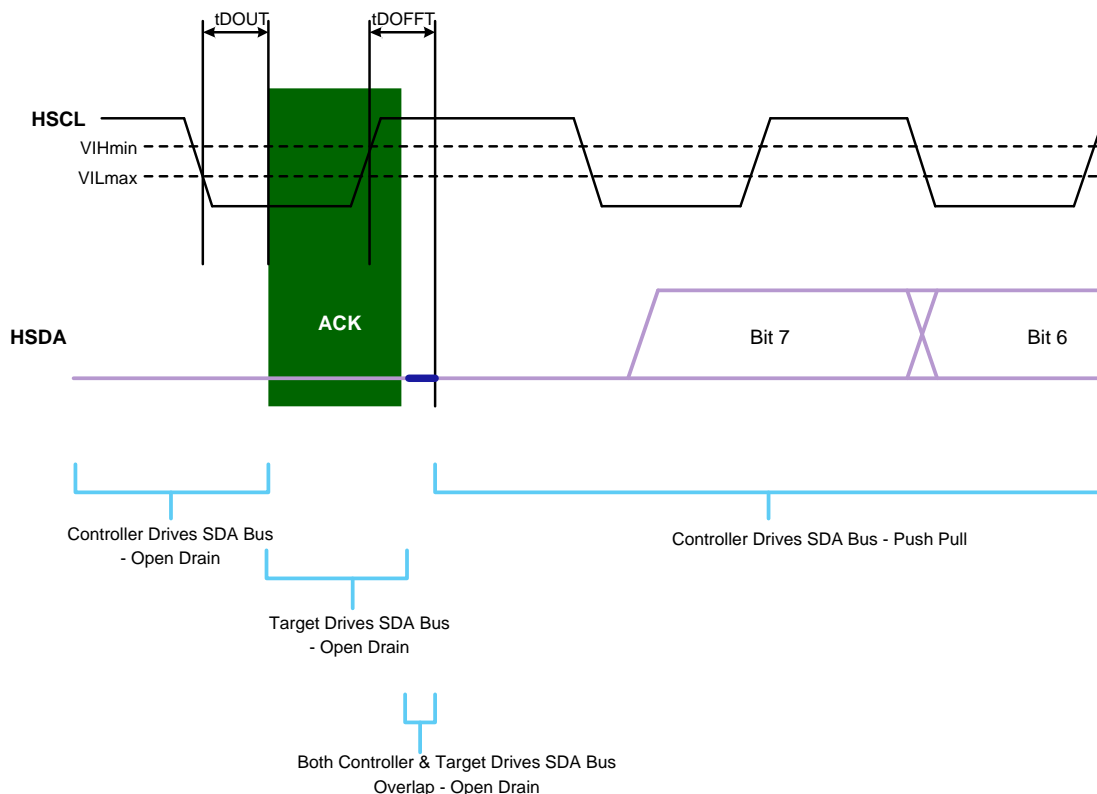

Figure 11 Target Open Drain to Host Push Pull Hand Off Operation
- See Figure 11 to see how the transition occurs from Target Open Drain (ACK) to Host Push Pull Operation (1st bit of Address, bit[7]).
1. See Figure 11 to see how the transition occurs from Target Open Drain (ACK) to Host Push Pull Operation (Repeat Start).
- See Figure 11 to see how the transition occurs from Target Open Drain (ACK) to Host Push Pull Operation (Repeat Start).